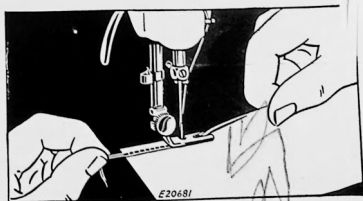

FIG. 36A. HEMMING EDGE OF MATERIAL AND PULLING BACK THREADS WHILE SEWING
(4) Lower hemmer and commence to sew, slightly pulling threads back while sewing. **Keep mouth of hemmer full to produce a smooth, even hem** as shown in **Fig. 36A**.